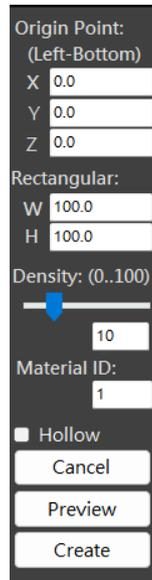

Figure 1.9. Square tool for setting the area of interest.
3. To set the interest area, click on the 'Square' tool  located on the left side of the window. A panel will then appear as shown in Figure 1.9. After entering W=50 and H=200, click on the 'Preview' button followed by the 'Create' button. When you click the 'Create' button, an area of interest measuring 50 cm by 200 cm appears on the window as shown in Figure 1.10.